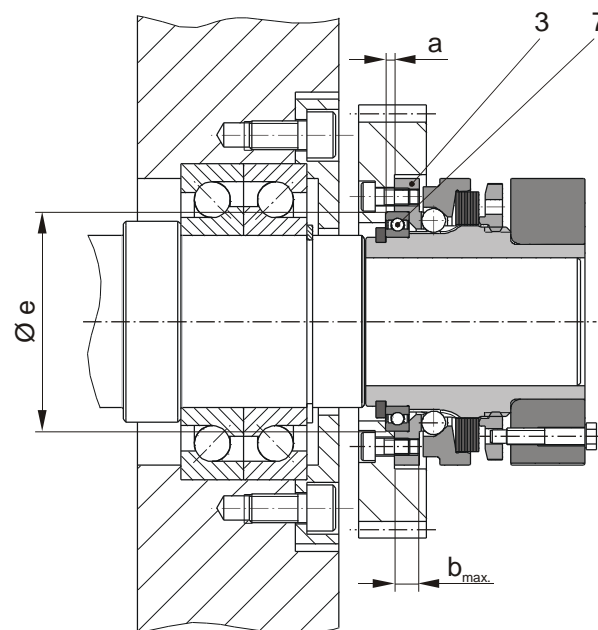

Fig. 4
Installation of the Output Elements (Fig. 4)
Please make sure that the output element bearing is designed as a location bearing (Fig. 4).
Please observe the connection dimensions "a" and "e" for the output elements as well as the maximum permitted screw-in depth "b_{max}" in the pressure flange (3); see Fig. 4 and Table 1 on page 5.